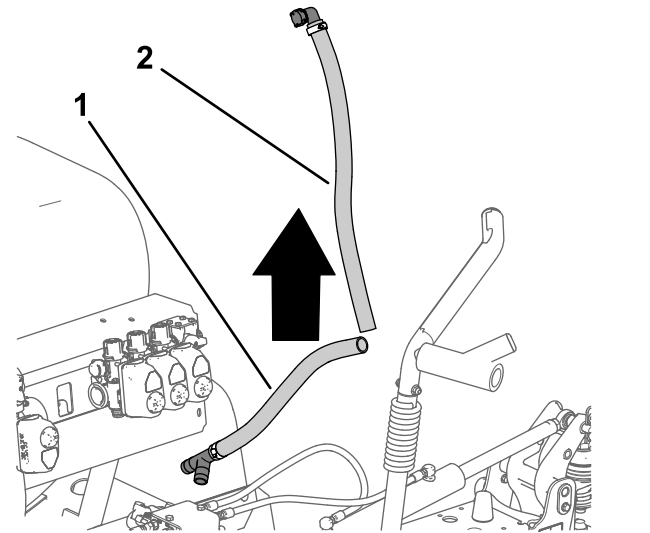

Figure 45
- Remove the upper and lower bypass hoses from the machine (Figure 45).